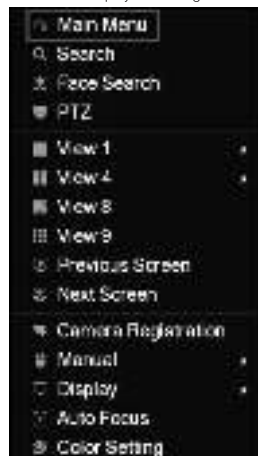

Figure 5-1
Step 1 In the live view screen interface, right-click anywhere on the screen. The shortcut menu is displayed. See Figure 5-1.
The shortcut menu (Figure 5-1) is displayed.